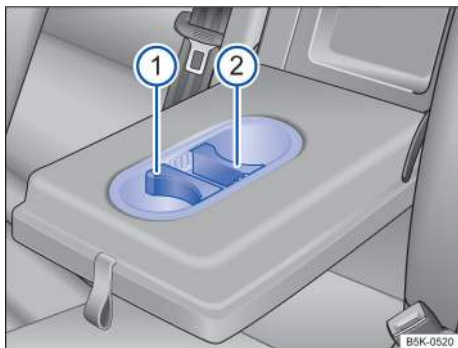

Fig. 137 Cup holders in the rear center armrest (version 2).
- Some cup holders have inserts that can be positioned to hold beverages of different sizes → fig. 137. *To adjust* the cup holder to the size of the cup, pull the inserts ⓘ or ⓘ upward and reposition them to fit the size of the cup.